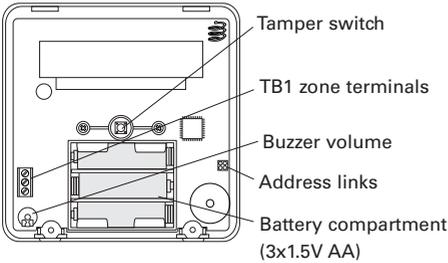
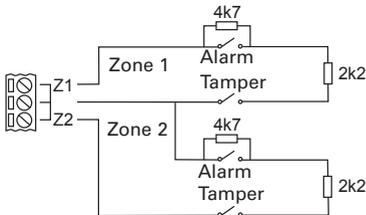

Figure 6. Keypad PCB
Figure 7. Connecting Fully-Supervised Loop (FSL) zones
You can use TB1 (Figure 6) to connect zones directly to the keypad. Use only FSL 4k7/2k2 wiring, as shown in Figure 7 (no other wiring or resistor combinations are possible).
Fit a jumper across one pair of address links (Figure 6). Each keypad that communicates with the same base station must have a different setting.
- Remove the insulating tab from the battery compartment in the keypad (Figure 6). **Do not refit the front cover yet.**